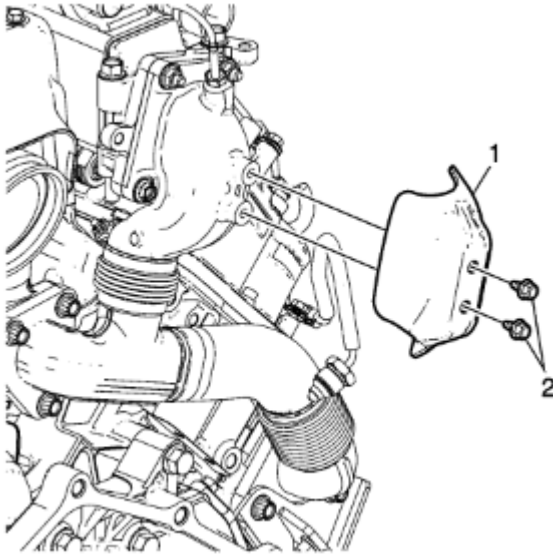

Fig. 17: Up-pipe heat shield removal
- a) Remove the two bolts retaining the heat shield onto the top of the passenger-side up pipe. Remove the heat shield. Refer to figure 17 below.